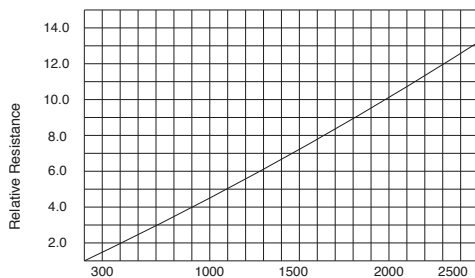

Figure 8 Color temperature (Kelvin)
2. Amperage-The current required by the filament is determined by the resistance of the wire. A small diameter wire will have a higher resistance and, therefore, will draw less current. The temperature at which a filament operates is also a major factor in determining the resistance because a tungsten filament at 2,000°K has a resistance of ten times its resistance at room temperature. (See Figure 8).